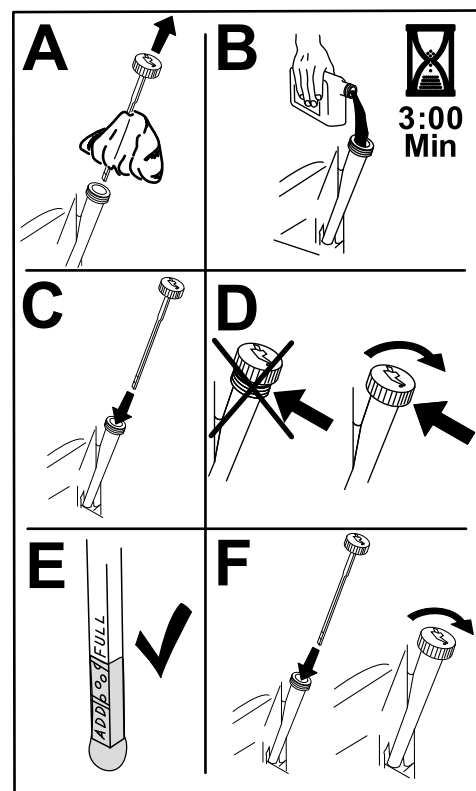

Figure 43
6. Slowly pour approximately 80% of the specified oil into the filler tube and slowly add the additional oil to bring it to the **Full** mark (Figure 43).